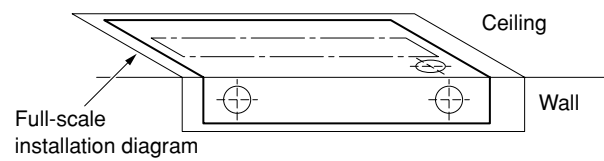

Fig. 3-68
- (1) Place the full-scale diagram (supplied) on the ceiling at the spot where you want to install the indoor unit. Use a pencil to mark the drill holes. (Fig. 3-68).